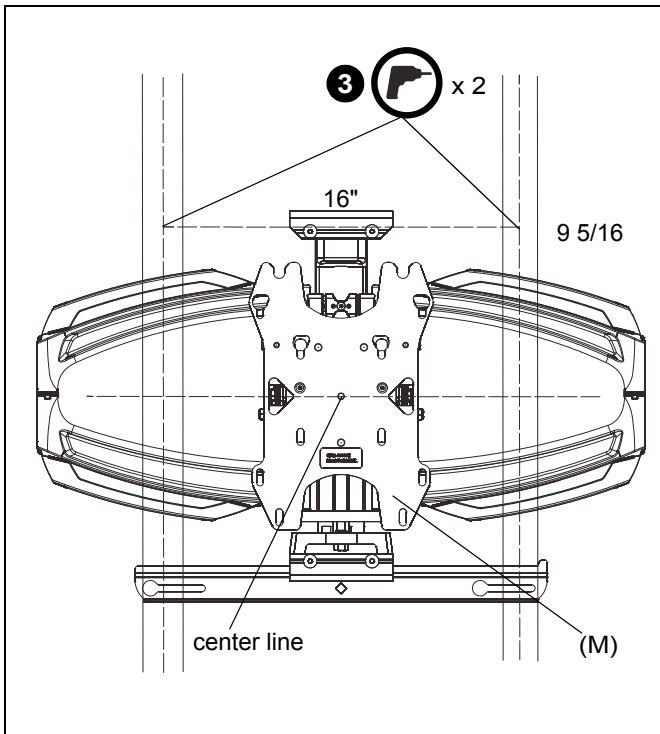

Figure 1
2. Measure 9 5/16" above desired center line and draw a horizontal line. (See Figure 1)
NOTE: Hold mount up to wall at desired mounting location if unsure about where the center line will be. The center line of the mount will coincide with the center line of the display. (See Figure 1)
3. Drill two 13/64" holes at center of wood studs along the line drawn in the Step 2. (See Figure 1)